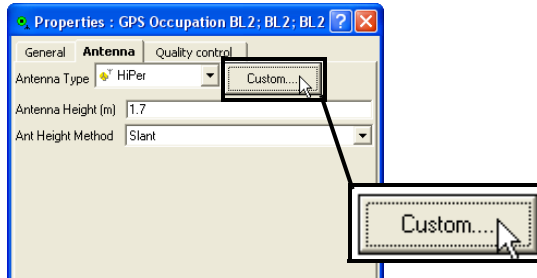

Figure 5-9. Custom Antennas List
- On the *Antenna* tab, click **Custom** (Figure 5-9) to display the *Custom Antenna List*.